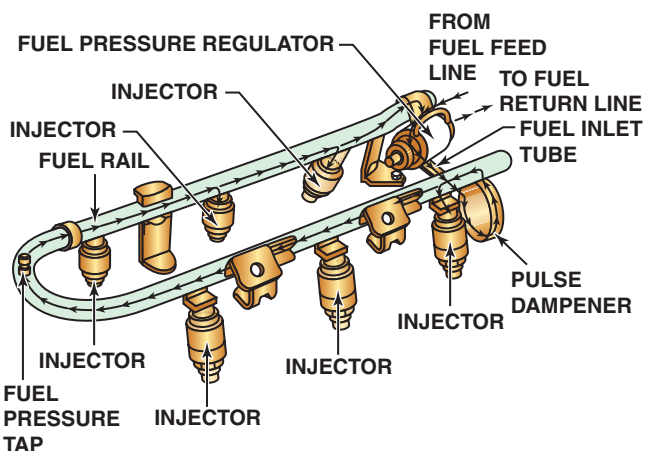

FIGURE 78-5 The injectors receive fuel and are supported by the fuel rail.
- Fuel distribution is equal to all cylinders because each cylinder has its own injector. ● **SEE FIGURE 78-5.**